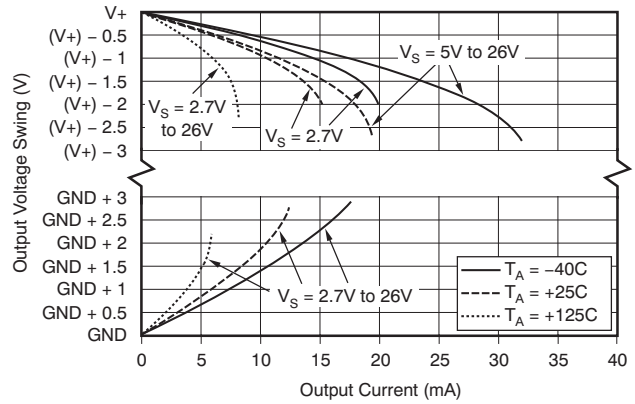

Figure 10. Output Voltage Swing vs Output Current
(2) RTI = referred to input
(3) Not production tested
(4) See Typical Characteristic, *Output Voltage Swing vs Output Current* (Figure 10).